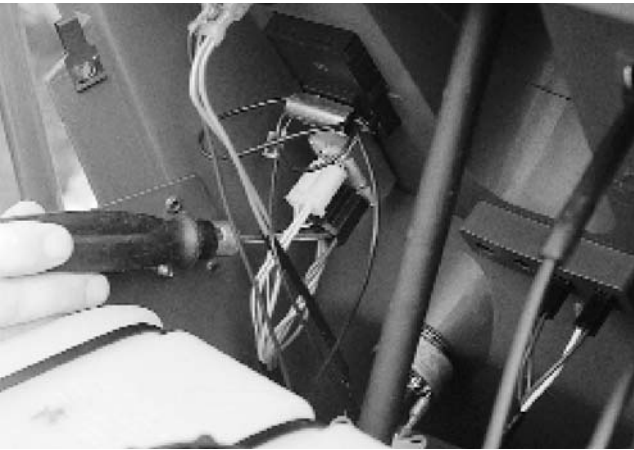

Figure 3-36.
3. If there is voltage at the red wire at the PTO, switch the PTO to the start position and check for voltage at the blue and brown wire. If there is no voltage at either, replace the PTO switch. See Figure 3-36.